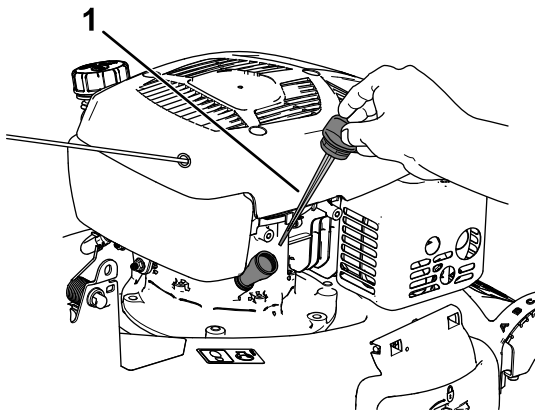

Figure 31
3. Remove the dipstick by rotating the cap counterclockwise and pulling it out (Figure 31).